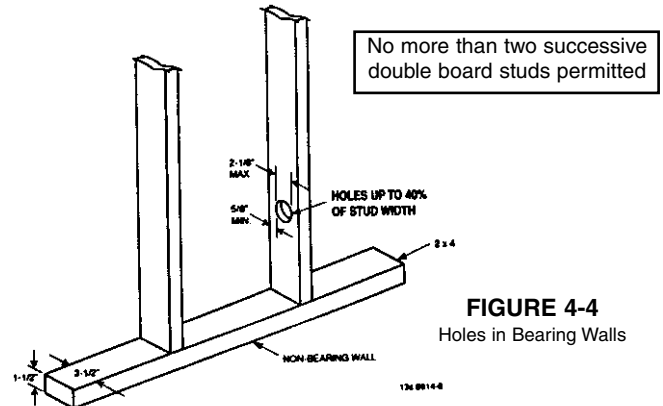

FIGURE 4-4
- Where holes are to be bored in bearing vertical members of the wall framing, the size of such holes shall not be larger than 40 percent of the width of the member. Holes up to 60 percent of the member's width are permitted if the members are doubled. No more than two successive double bored members are permitted. (See figure 4-4.)